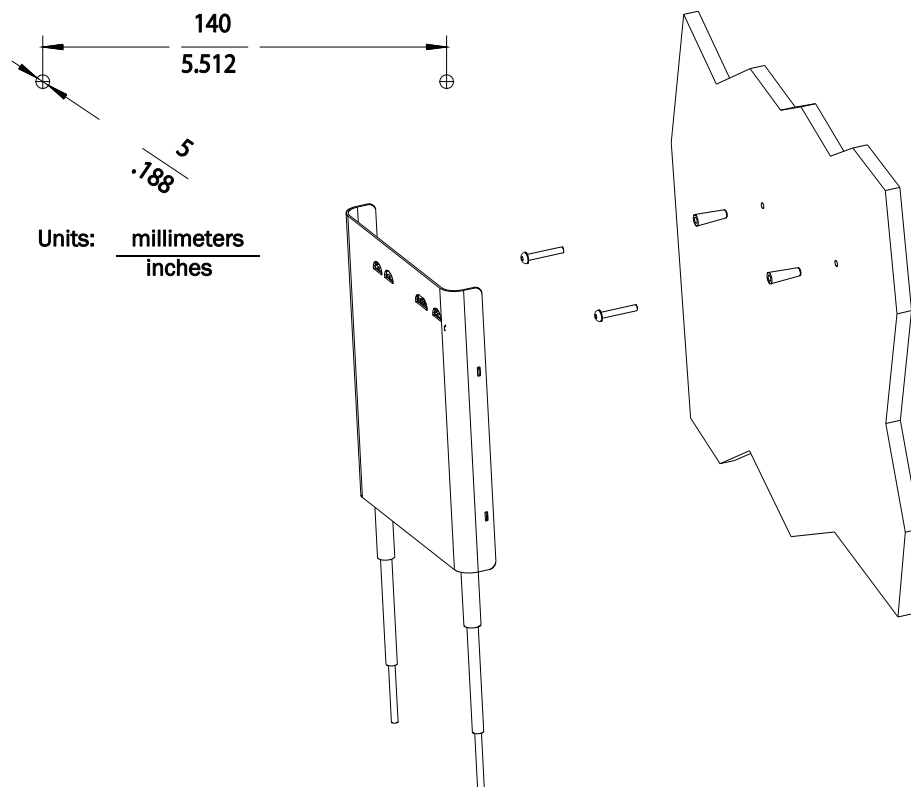

Figure 2-1: Mounting the IntelliVue Smart-hopping 1.4 GHz Core AP to a Wall (Fixed Mount)
1. Using a 3/16-inch drill bit, drill a pilot hole 0.188 inches (5 mm) in diameter at the locations shown in Figure 2-1.
3. Screw a supplied #6 x 1 1/4 inch self-tapping screw into each screw anchor (or pilot hole) as shown in Figure 2-1.
4. While holding the AP chassis with its antennas pointing down as shown in Figure 2-1, fit the holes in the back of the AP chassis over the screw heads that protrude from the wall. Slide the AP chassis down so that the screw heads are securely in the grooves in the back of the AP chassis.